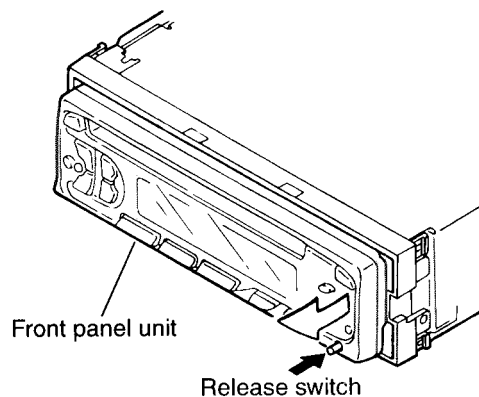

Fig.1
■ Detaching the front Panel Unit (See Fig.1)